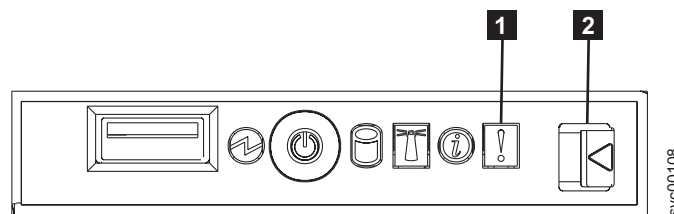

Figure 99. SAN Volume Controller 2145-8F4 operator information panel
1. Is the Error LED, shown in Figure 99, on the SAN Volume Controller 2145-8F4 or the SAN Volume Controller 2145-8F2 operator panel illuminated or flashing?